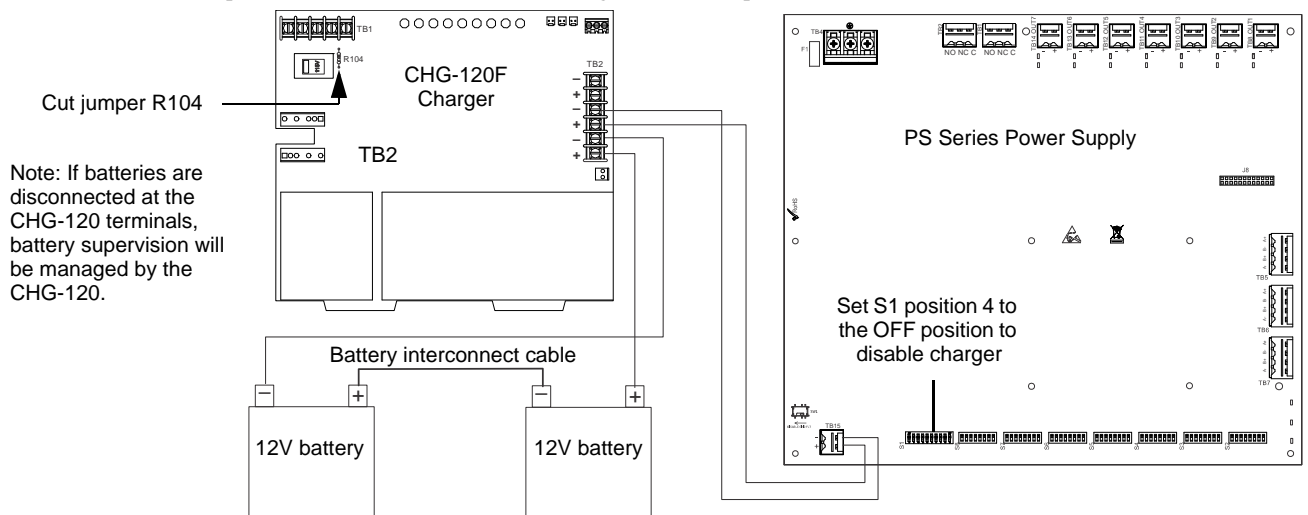

Figure 2.9 Connecting the Power Supply to a CHG-120F Charger
2. Connect the battery cables between TB15 (+ and –) on the FL-PS and the CHG-120F charger output circuit (TB2: Out 1+ and Out 1–) as shown in Figure 2.9. Be certain to observe polarity.